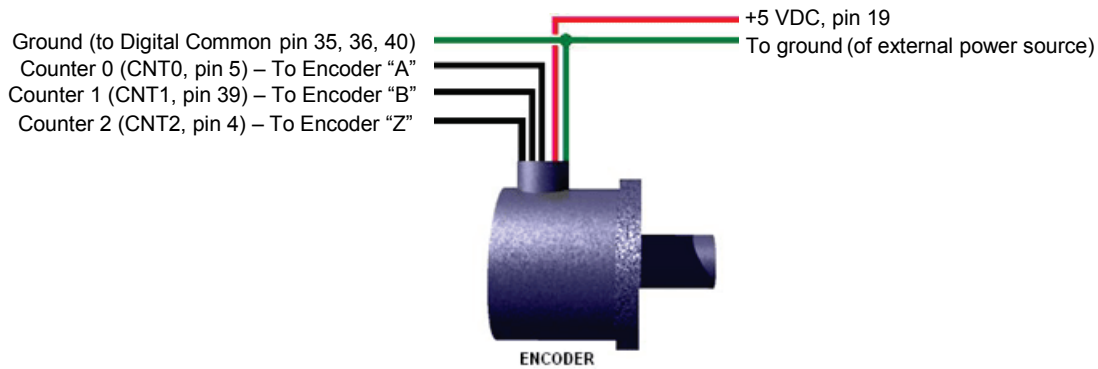

Figure 14. Encoder connections to pins on the SCSI connector\*
**Wiring to one encoder:** Figure 14 shows the connections for one encoder to a module.